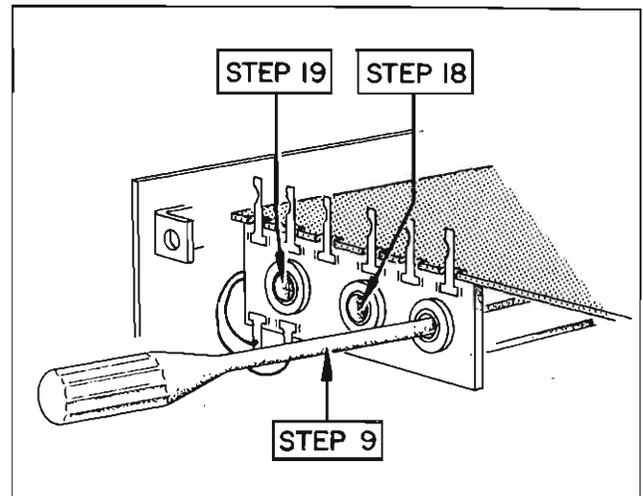

Figure 33 - CORE ADJUSTMENTS
6. Check depth of tuning cores. When the radio pointer is at its extreme right end, tuning cores should be 1-3/8" from the end of the coil form. See Figure 33.
14. Adjust slugs 18 and 19 for maximum voltage reading on meter. Do not adjust oscillator slug. See Figure 33.